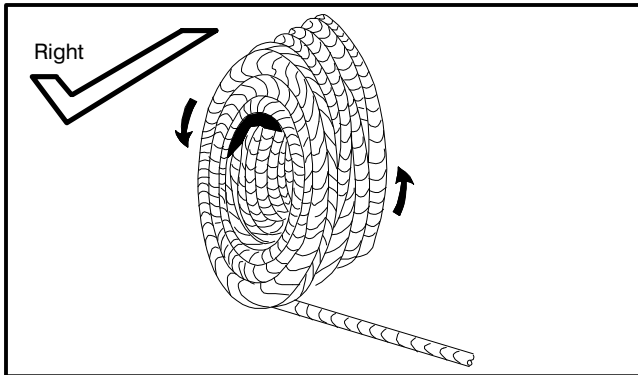

Figure 5-5
1. To avoid twists, unreel the entire rope on the ground in line with the boom deflector sheave and drum. Set the reel up horizontally so it can rotate as the rope is reeled off. Refer to Figure 5-5. Reel the rope off slowly, so the reel won't tend to "throw" the rope off. If the new rope cannot be laid out on the ground, further steps are necessary: